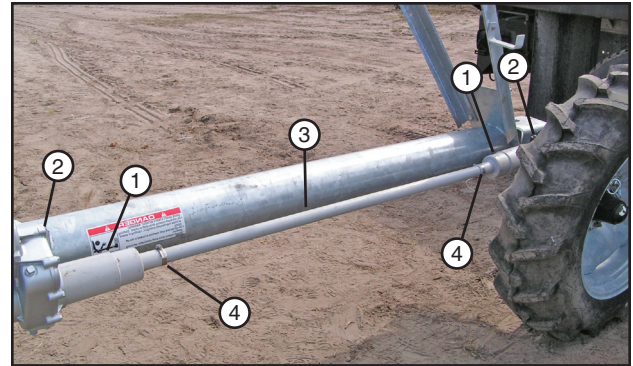

Figure 41-1 Operation Position
- Slide the U-joint shield over the U-joint and position approximately 1/4 in (6.3 mm) away from touching the gearbox. Secure the U-joint shield to the drive shaft shield with a clamp. See figure 41-1.